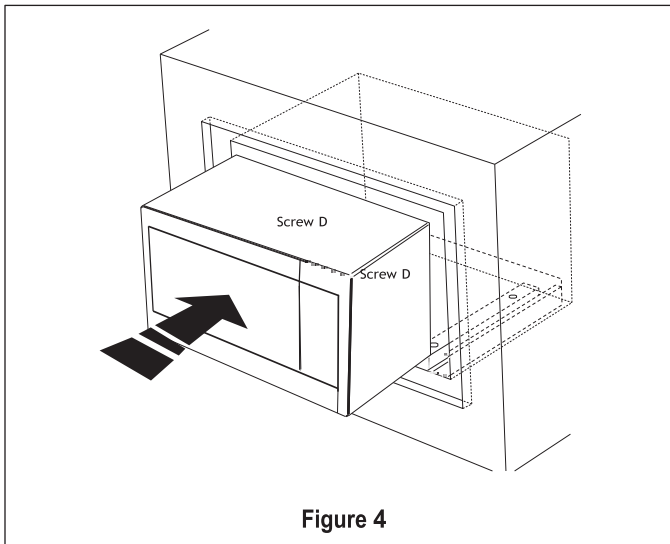

Figure 4
- Carefully guide the assembled oven into the prepared opening. Slide the oven onto the EXHAUST DUCT ASSEMBLY. Avoid pinching the cord between the oven and the wall. See Figure 4.
2. Carefully guide the assembled oven into the prepared opening. Slide the oven onto the EXHAUST DUCT ASSEMBLY. Avoid pinching the cord between the oven and the wall. See Figure 4.